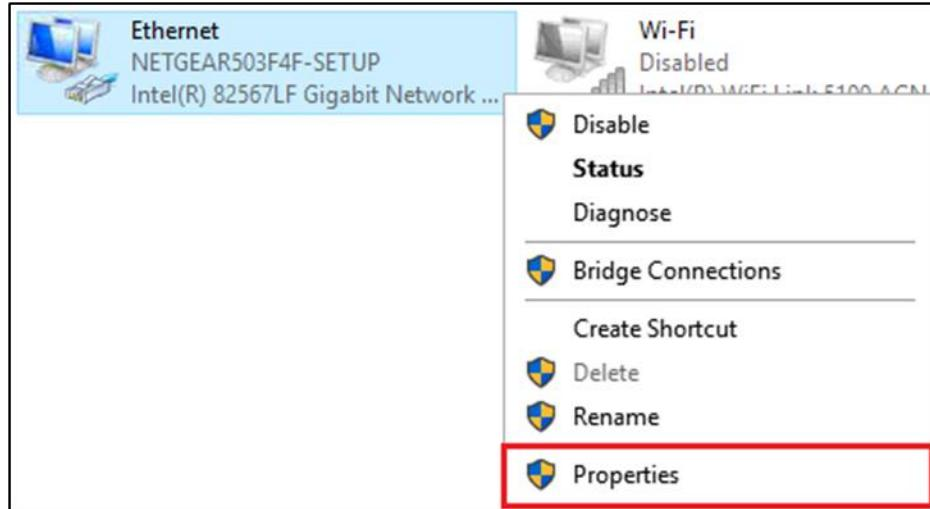

Figure 4: Right click on the Ethernet device and select Properties
2. Right click on Ethernet (Local Area Connection) and click Properties (Figure 4).